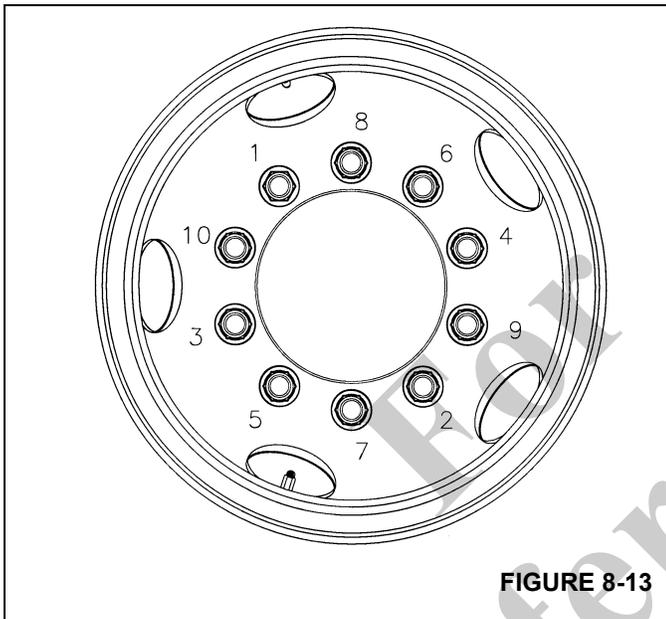

FIGURE 8-13
4. Tighten the lug nuts to a preliminary torque of 68 Nm (50 lb-ft) in the sequence as shown in (Figure 8-13).
Torque the lug nuts 610 to 679 Nm (450 to 500 lb-ft) in the sequence as shown, (Figure 8-13). Retorque lug nuts 80 to 160 km (50 to 100 mi) after the wheels are removed and reinstalled. Check the torque every 804 km (500 mi) thereafter.